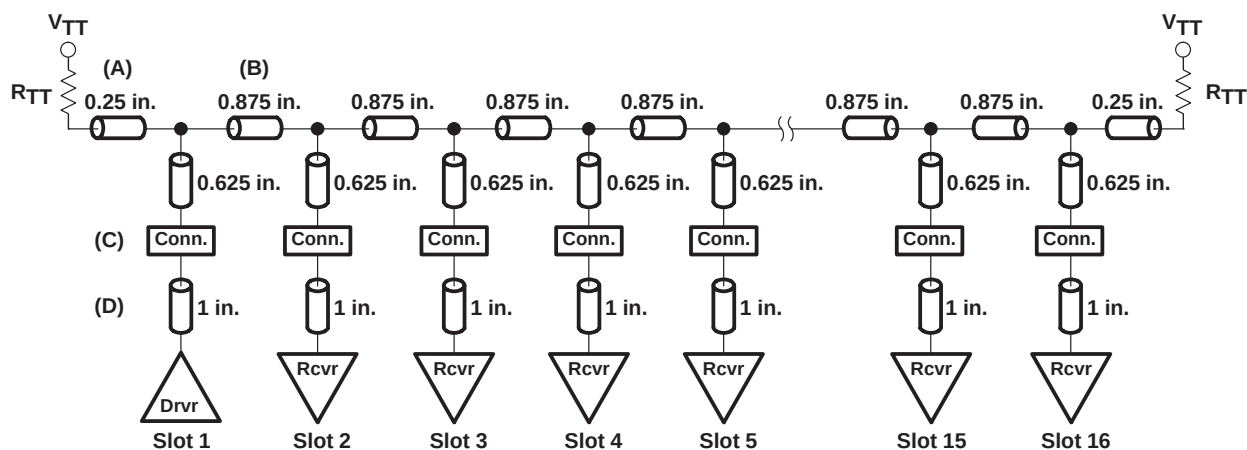

Figure 7. Backplane Physical Representation
Figure 7 is a graphical summary of the network that provides the physical dimensions of the backplane. Each element introduces additional capacitance on the board, which increases the loading on the backplane, eventually affecting signal integrity. The physical representation of the demonstration backplane shows the slots separated by 0.875 in. of backplane trace (B). There is a 0.0625-in. stub between the backplane trace and the connector (C), followed by approximately 1 in. of microstripline card stubs (D), and a total stub length of 1.0625 in. (as shown in the impedance calculator in Figure 8).
Laboratory data were taken using the demonstration backplane and compared to HSPICE simulation results to validate the performance of the GTL16622A on the backplane. Figure 7 is the reference to give the position of driver and receiver cards in the backplane. Results for TI's newest addition, the GTL16612A, demonstrate the throughput capability in a very high-performance backplane.